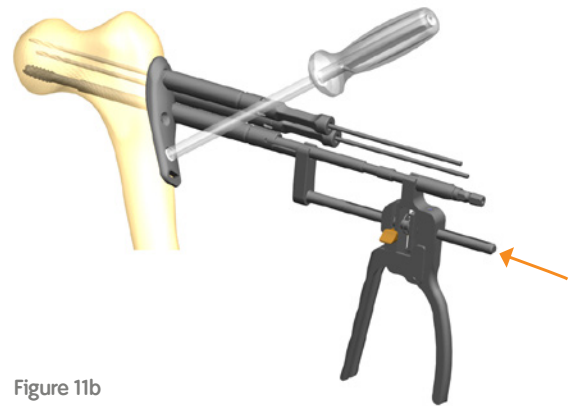

Figure 11b
14. Using your thumb, push the end of the ratchet bar of the Proximal Compression Handle until the medial tab fully seats against the end of the Proximal Locking Screw Drill Guide (Figure 11b).